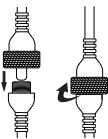

Abb. 1
- Before cleaning the robot remove the power cord plug (29) from the mains socket.
- Remove the plug (31) from the socket (8) (fig. 1).
- Turn the robot over, remove the cleaning rings (16) and the cleaning cloths (11).
- Machine or hand washing of the cloths (11) at 30-40°C is recommended.
- Do not tumble dry and do not dry the cloths (11) at the temperature exceeding 50°C.
- Do not iron the cloths (11) and do not use chemicals for cleaning them.
- Do not immerse the robot body, the power adapter (29), the power cord (29), the robot power cord (30) or the extension cord (32) in water or any other liquids.